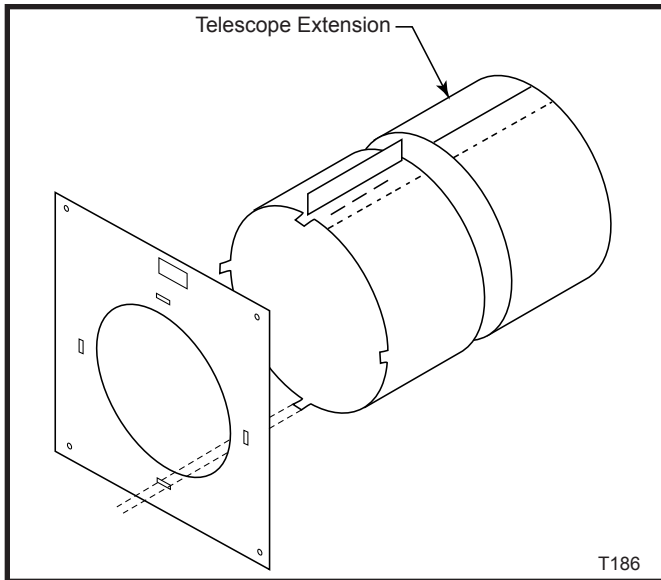

Fig. 19 The telescope extension must be used if wall thickness is over 5" (127 mm).
1. Measure the total wall thickness. Determine whether or not the thimble extension is needed. If the combustible wall depth is over 5" (127 mm), the extension should be used. (Fig. 19)
2. Assemble wall thimble with thimble extension flange to top. Mate thimble to wall plate with the four tabs provided. Bend tabs over to secure. (Fig. 19)
3. Locate vent opening in wall. Maintain 2” (51 mm) clearance to top of vent from combustibles. Install wall thimble per instructions supplied with Horizontal Vent Kit. Refer to Page 14, Figures 19 and 20 for wall thimble installation.
4. Attach vent components beginning with a TDV45S elbow. Apply high temperature sealant to the outside leading edge of the fireplace flue pipe, then install the TDV45S starter elbow and secure it to the fireplace with the three (3) screws (provided) through the outer pipe flange and into the fireplace 7” (178 mm) dia. starter flange.